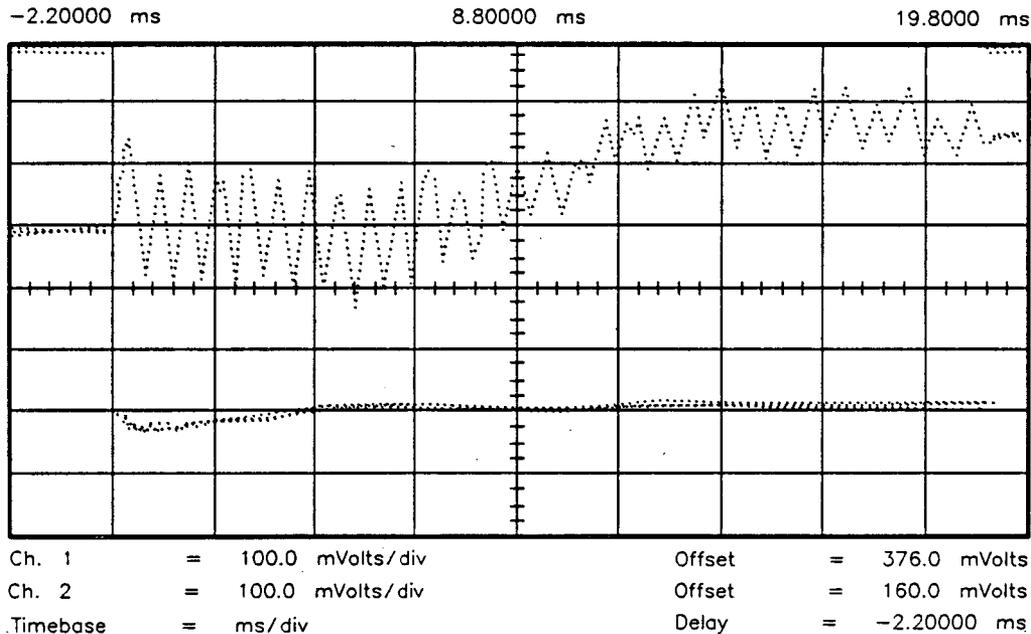
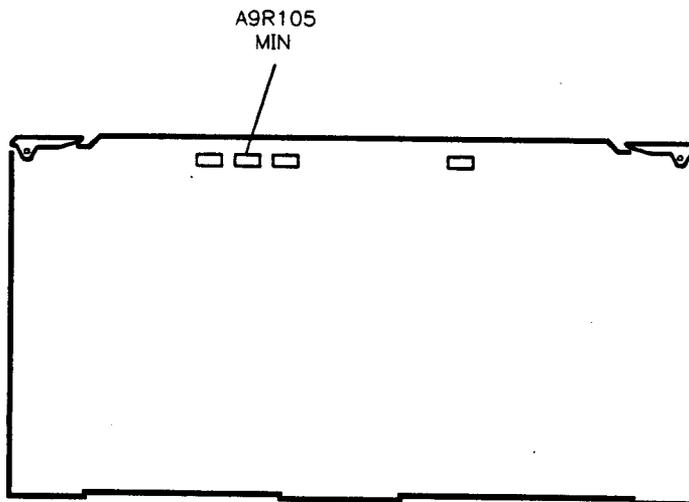

Figure 3-21. A9 Pulse Board MIN Adjustment
Figure 3-22. A9R105 Location
9. Alternate between registers 1 and 2 and adjust A9R105 (MIN) for the minimum overall voltage as shown in Figure 3-21. See Figure 3-22 for the location of A9R105.